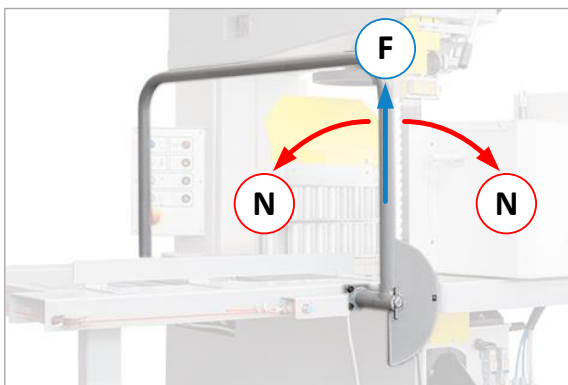

Figure 36: Positions of the emergency stop bracket
- The switch bracket allows sawing operation when it is in its centre position (**F**), see ⇒ Figure 36.
- As soon as the bracket is pulled forward or pushed back, the position switch (**S**) is triggered. The machine is set to the emergency stop state (**N**), see ⇒ Figure 36.